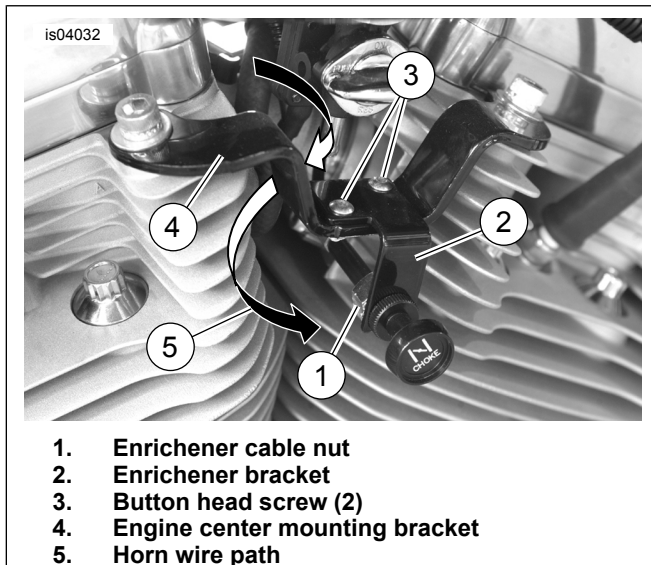

Figure 7. Original Enrichener Bracket, 2004-2006 Models
1. Cut the cable strap securing the horn wire lead(s) to the frame. Remove the horn wire(s) from the wire bundle. Secure the remaining wires to the frame with a new cable strap (26) from the kit.
2. Route the horn wires, with terminal clips, from the front mounted horn down behind the engine center mounting bracket (see Figure 7, Items 4 and 5) for later installation to the new side mounted chrome horn kit.
4. Obtain the 5/16-18 x 4-1/4 in. hex head cap screw (25) from the kit. Install the fuel tank to the vehicle, using the **new** screw and the remaining hardware removed earlier. Refer to FUEL TANK, INSTALLATION in the Service Manual. Tighten the fuel tank front mounting screw to 10.8–21.6 N·m (96–192 in-lbs)
5. See Figure 7. Loosen the nut (1) on the back of the enrichener cable. Remove the cable from the slot in the enrichener bracket (2), and let it hang free.